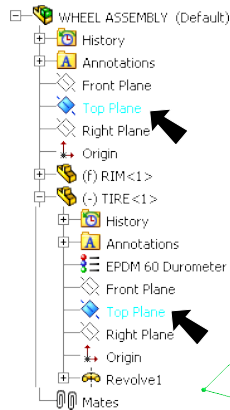
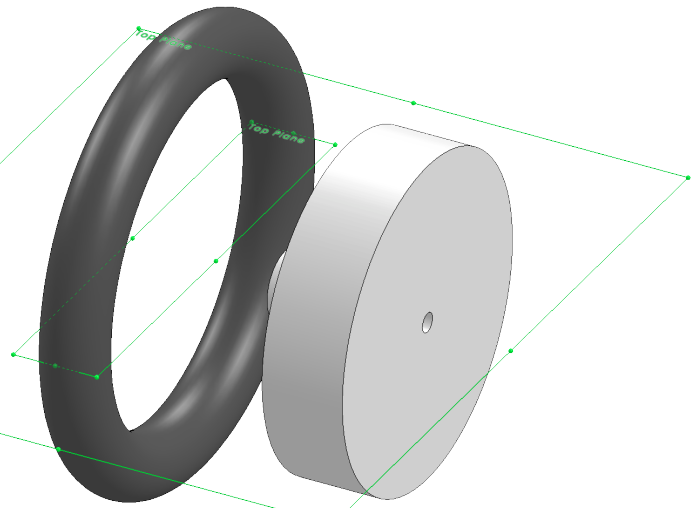

Fig. 7
Fig. 8
Step 1. Click **Top Plane**  in the flyout Feature Manager design tree, **Fig. 7**.
Step 2. Expand **Tire** and click **Top Plane** , **Fig. 7** and **Fig. 8**.